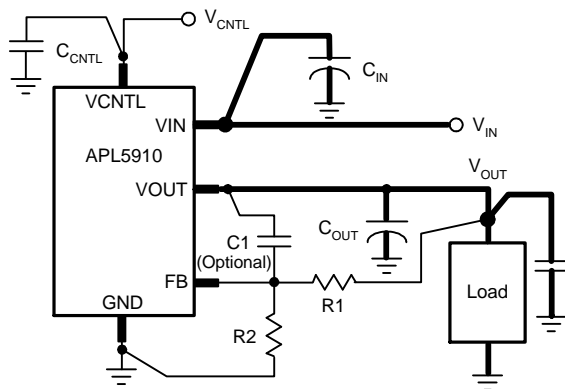

Figure 1
### Layout Consideration (See figure 1)
6. Large current paths, shown by bold lines on the figure 1, must have wide tracks.